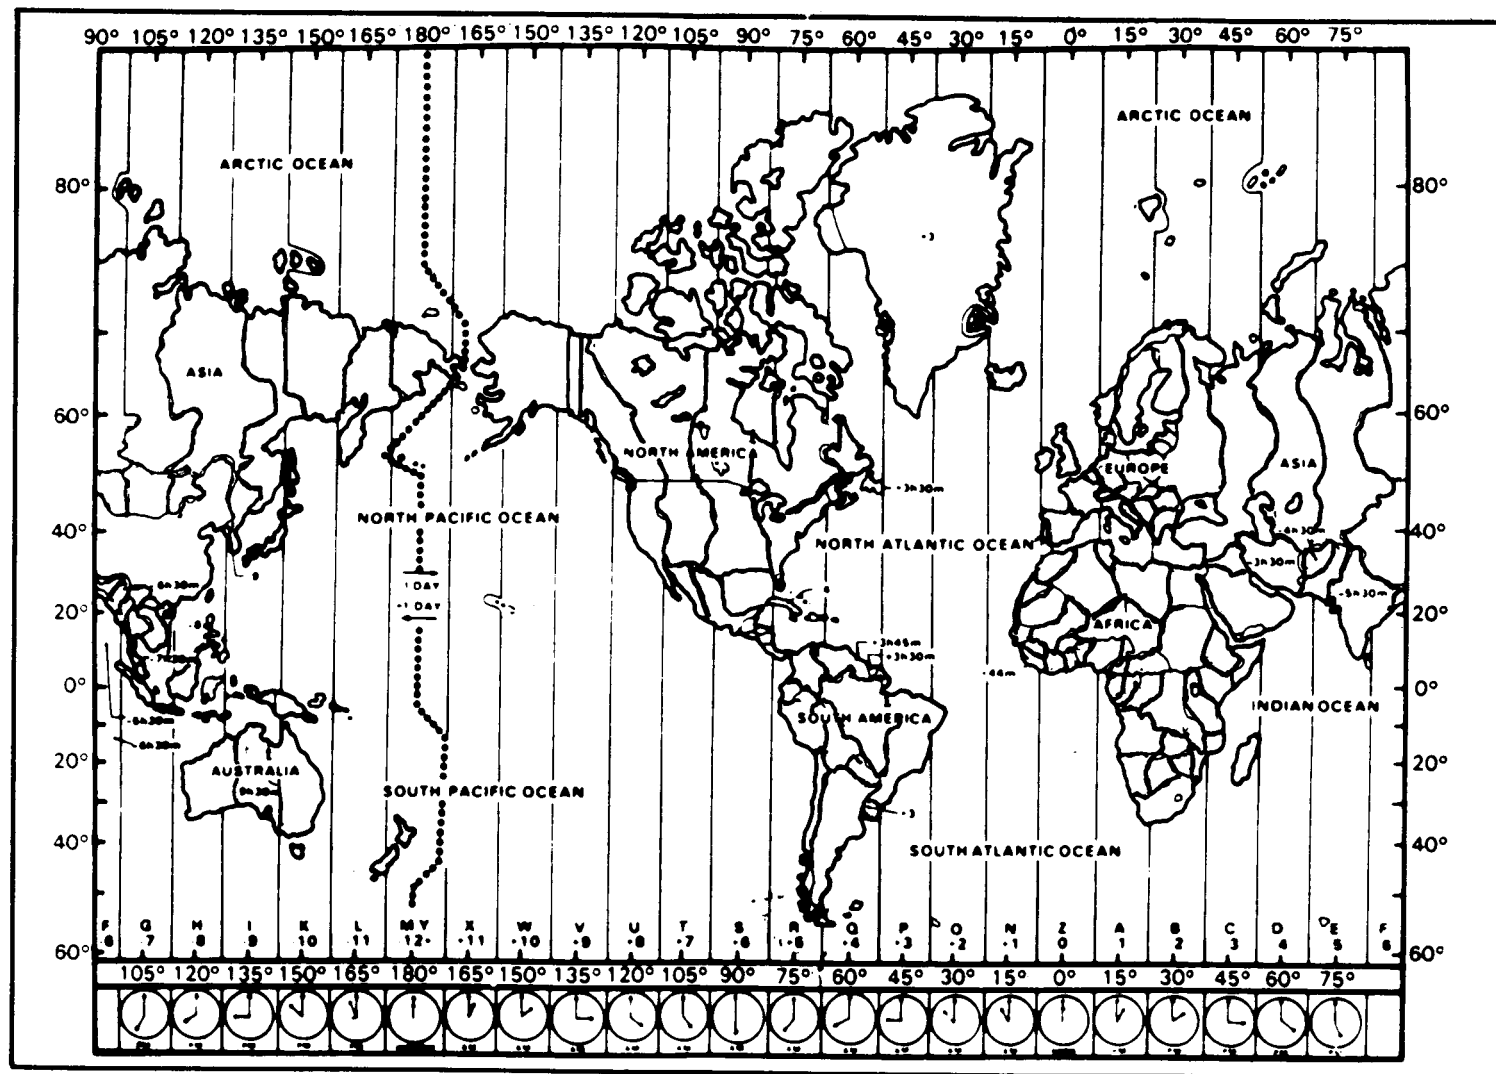

Figure 5-6. World time zone map.
b. When using your time conversion chart, there are two easy rules to follow: First, you NEVER count the time zone in which you are located. Second, you add 1 hour for each time zone crossed when moving to your right, and you subtract 1 hour for each time zone crossed when moving to your left. In more simple terms, ADD when going to the RIGHT and SUBTRACT when going to the LEFT. For example, if you were stationed in C (Charlie) time zone and needed to convert to Z (Zulu) time, you would start with the letter C. Do not count the C for this is the zone in which you are stationed. Then count the B, A and Z zones to your left (three) and subtract 3 hours from your local time, and the result will be GCT or Z (ZUIU) time. (See Figure 5-6.)